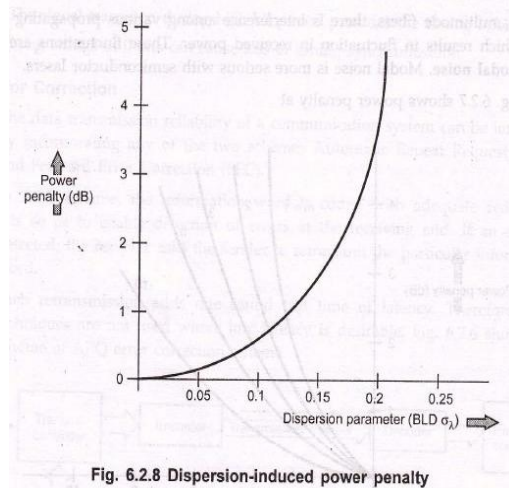

Fig. 6.2.8 Dispersion-induced power penalty
- Receiver sensitivity is degraded by Group Velocity Dispersion (GVD). It limits the bit-rate distance product (BL) by broadening optical pulse.
- Fig. 6.2.8 shows dispersion-induced power penalty of Gaussian pulse of width  $\sigma\lambda$ .